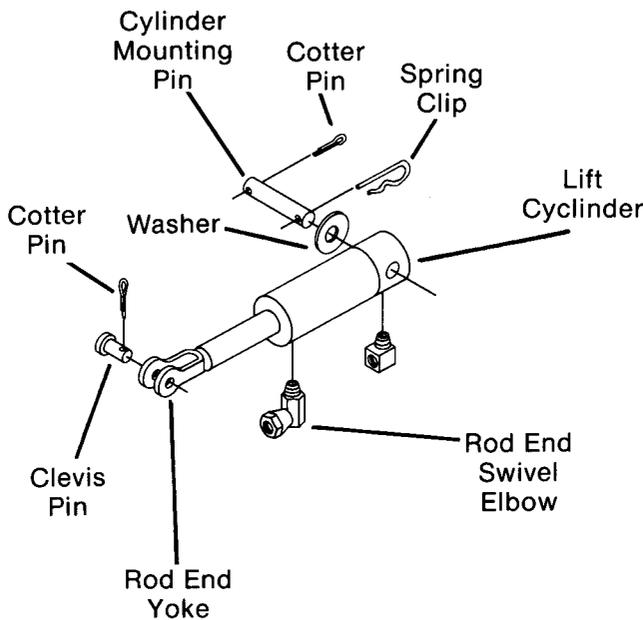

FIG. 90
- D. Remove cotter pin thru yoke end clevis pin and remove clevis pin. (Fig. 90)
- H. Remove rod end elbow swivel fitting from cylinder, which secures rod guide in cylinder. (Fig. 90)